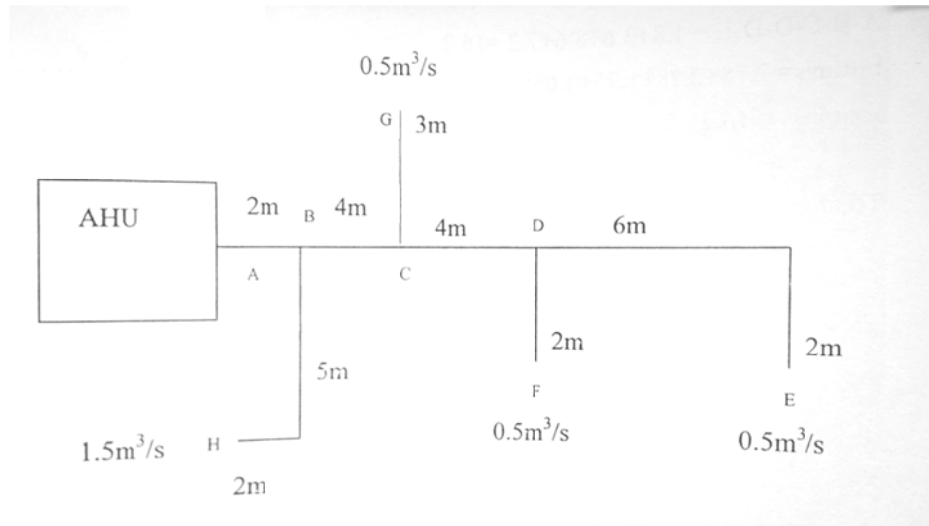

Figure Q5(b)
- [b] An HVAC ducting system for a factory is designed as in Figure Q5[b]. The frictional pressure drop per unit length ($\Delta p/m$) is maintained at 0.8 Pa/m throughout the ducting system. The diameters of each ducting section are as follows:**